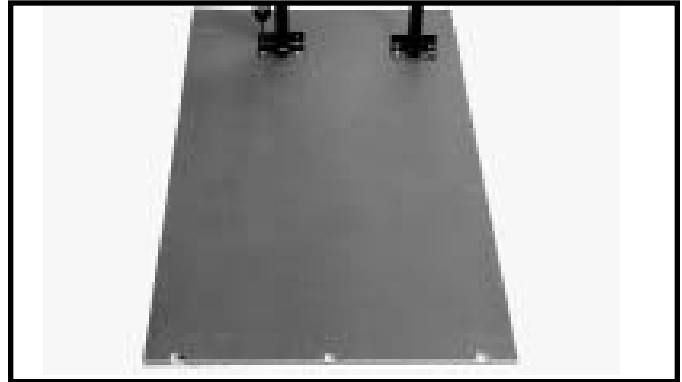

Fig. 6
3. Assemble the two table legs (A) Fig. 6 to the bottom of the table using eight #8x7/8" wood screws. **IMPORTANT: If your saw will be used with a mobile base underneath the saw base and table legs, the position of the legs may have to be changed to fit onto the mobile base. Assemble the mobile base, and position legs in mobile base then attach the legs to the table board.**